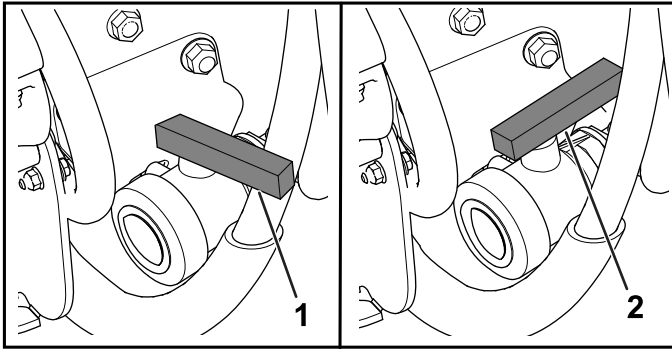

Figure 86
3. Open the valve to drain all unused material from the tank (Figure 86).
4. Close the drain valve (Figure 86).